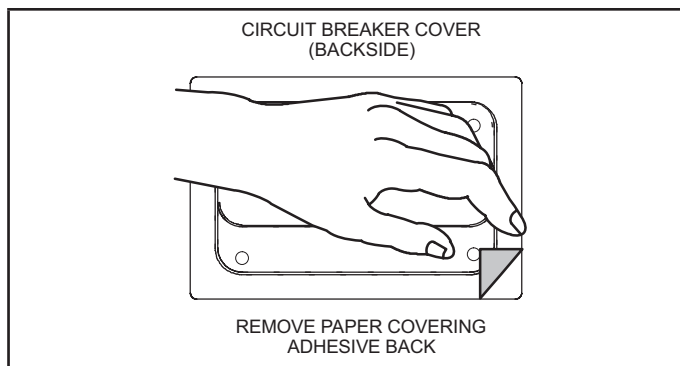

FIGURE 10. Remove Paper Cover
- 2 - Remove paper backing from the adhesive around the perimeter of the back side of the circuit breaker cover (figure 10).
- 2 - Cut an opening appropriately sized for combustible base. Base dimensions are illustrated in figure 10. After opening has been cut, set the additive base into opening. Connect outlet air plenum to the additive base. Set the unit on the additive base so flanges of the unit drop into the base opening and seal against the insulation strips. The unit is now locked in place. Install return air plenum and secure with sheet metal screws.